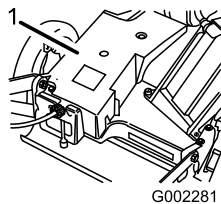

Figure 38
2. Remove the bolts that secure the belt cover (Figure 38) to the mower housing.